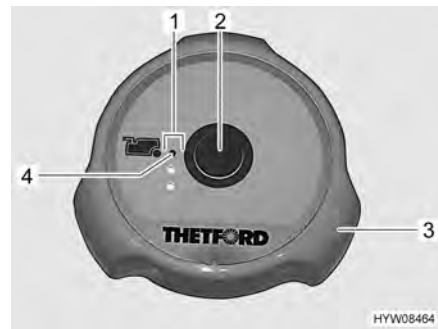

Fig. 109 Flush button/indicator lamps (Thetford toilet)
- Before flushing open the sliding trap of the Thetford toilet. To do this, turn the handle (Fig. 109,3) in an anticlockwise direction.
- For flushing, press the blue flush button (Fig. 109,2).
- After flushing close the sliding trap. To do this, turn the handle (Fig. 109,3) in a clockwise direction.
The indicator lamps (Fig. 109,1) show the filling level of the sewage tank. The red indicator lamp (Fig. 109,4) lights up whenever the sewage tank has to be emptied.